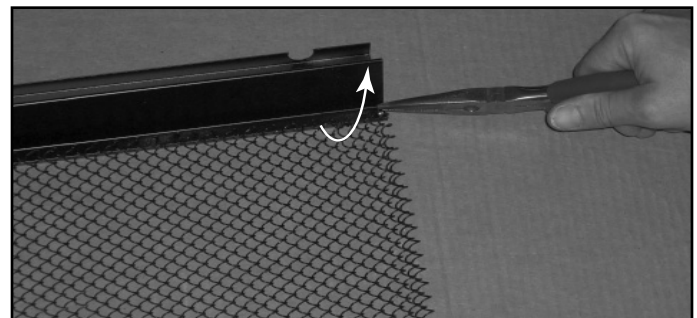

Figure 14.9 Bend Tabs to Hold Screen
- Bend tabs 90 degrees away from the screen with needle nose pliers to secure the screen to top grille. See Figure 14.9.